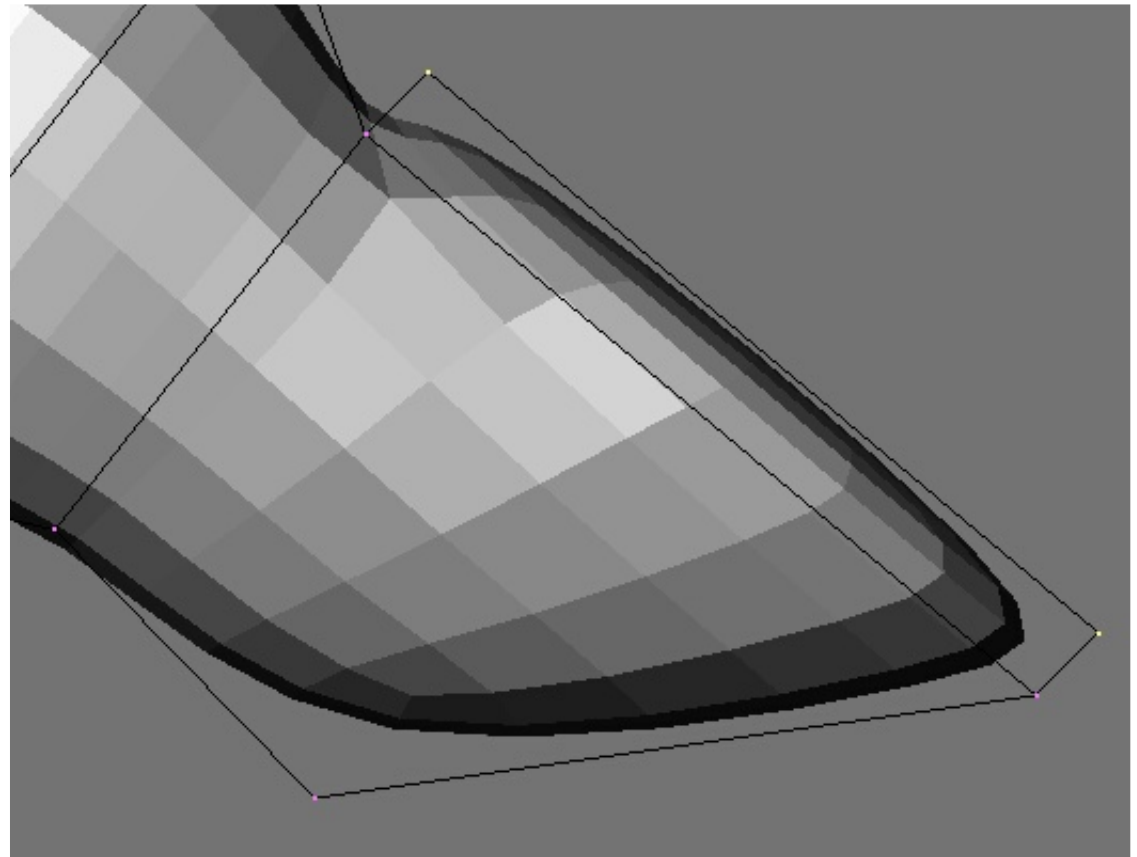
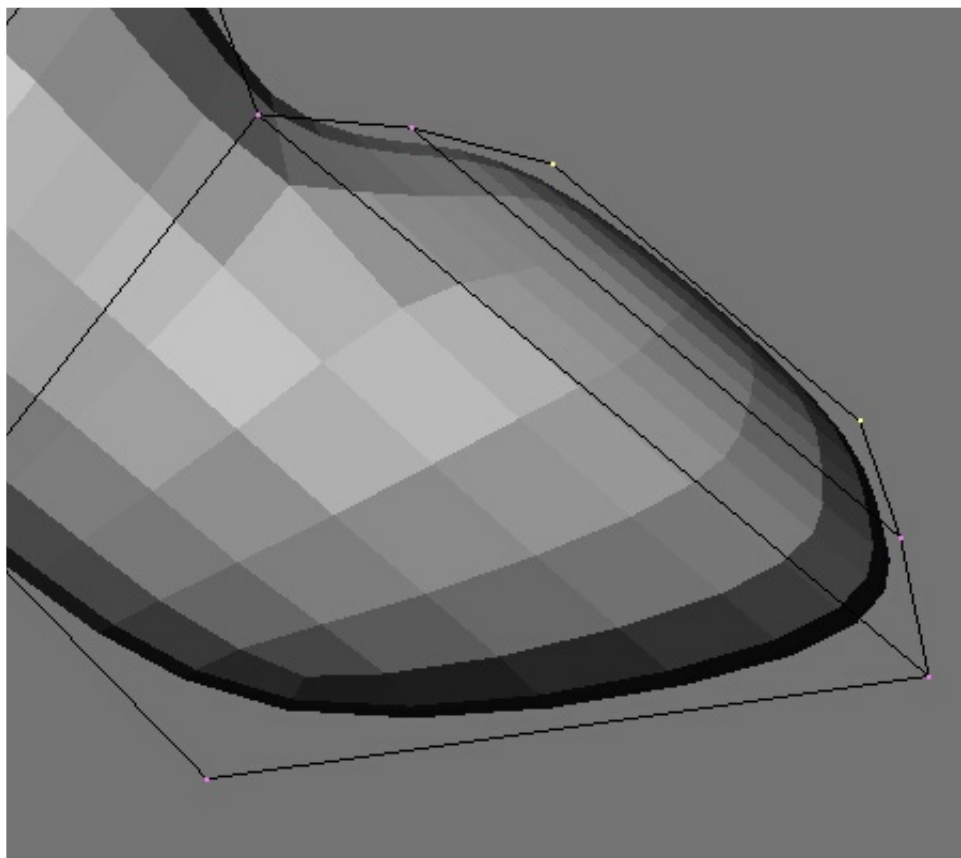
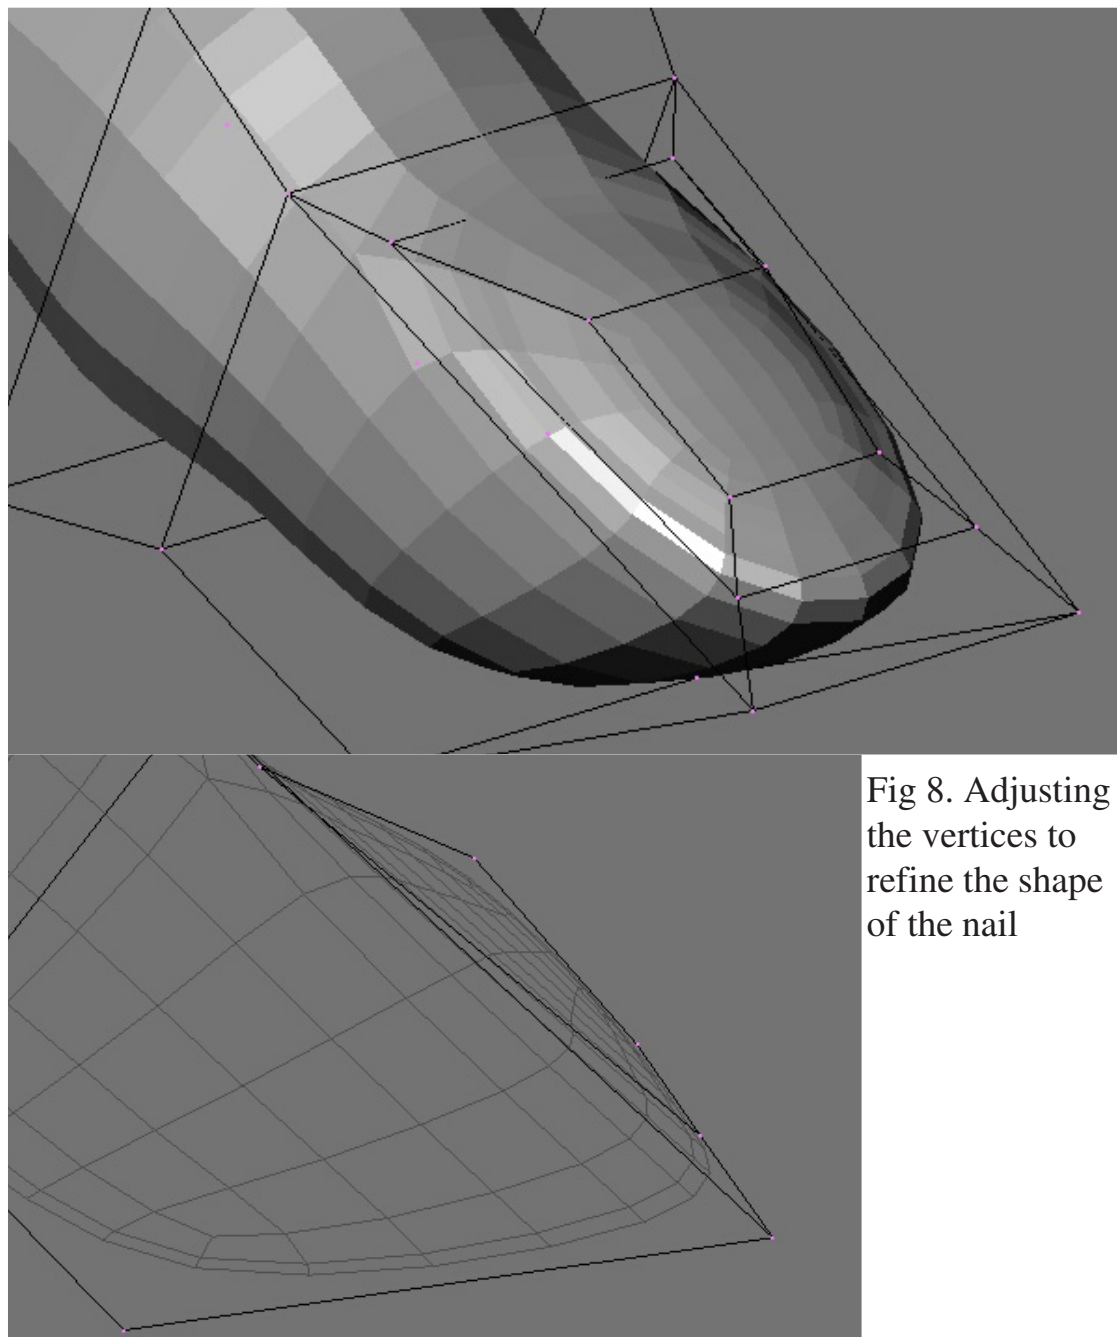

Fig 6. The first extrude at the tip of the finger.
Fig 7. The second extrude operation. Scale in a bit more to start developing the shape of the fingernail.
Fig 8. Adjusting the vertices to refine the shape of the nail
7. Time to make a fingernail. Select the vertices at the front where a finger nail would be and extrude them. See Figure 6. Scale in a bit and then extrude once again. See Figure 7. Now in the side view move the vertices around until the finger nail starts to take shape. Have a look at your own fingernail for a reference. The finger slopes gradually down but the nail itself has a small bulge upwards about one third down the nail. By adjusting vertices you can also create the indented look of the nail. See Figure 8.